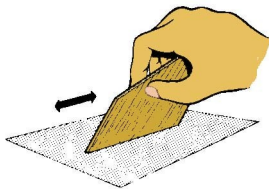

Figure 2
- **Step 3** Cut out the three fins from 1/16" balsa sheet, using the template provided. Give the surfaces a careful sanding with 220-grit to remove the fuzziness. Round over all of the **outer edges** except the root edge with 400-grit paper. Square up the root edge as shown in Fig. 2.